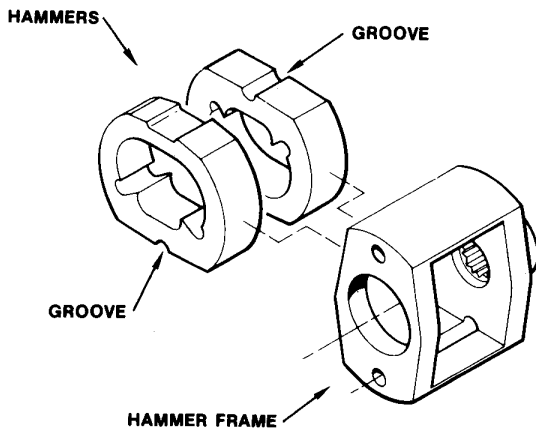

Figure 1.
5. See figure 1. Place the hammers side-by-side in the hammer frame. The two hammers are identical, but must be installed with the grooves opposite each other. Place the hammer frame assembly on the main shaft.
Hammers incorrectly assembled.	Correct assembly. Grooves must be opposite (figure 1).